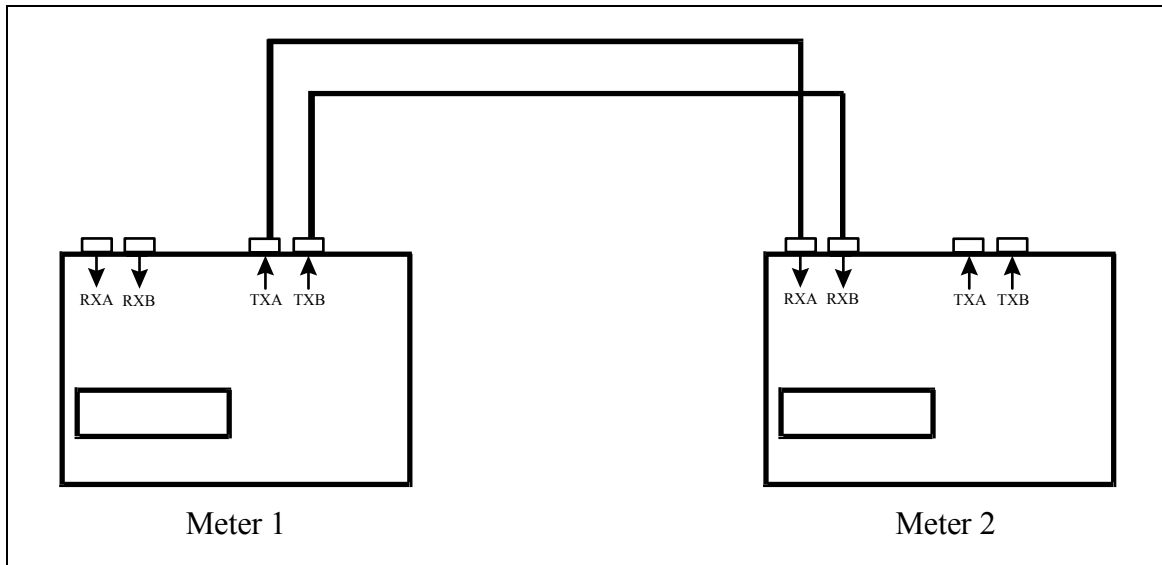

Figure 3-2 Connecting the cables for two-meter operation
3. Connect short, equal-length conductors as shown in Figure 3-2. Turn on the Power switches of both meters and set both Range switches to " $\pm 120.0$  ns".